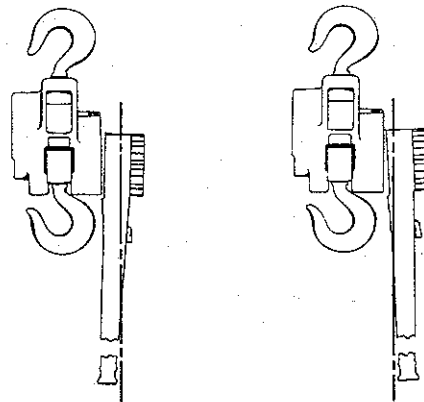

Figure 2-5. Views Showing Operating Handle Cocked
a. Your 'Tugit' will not "free wheel" if handle is cocked as shown in Figure 2-5. Make certain there is no side thrust or pressure that would prevent handle from turning freely on its pivot.